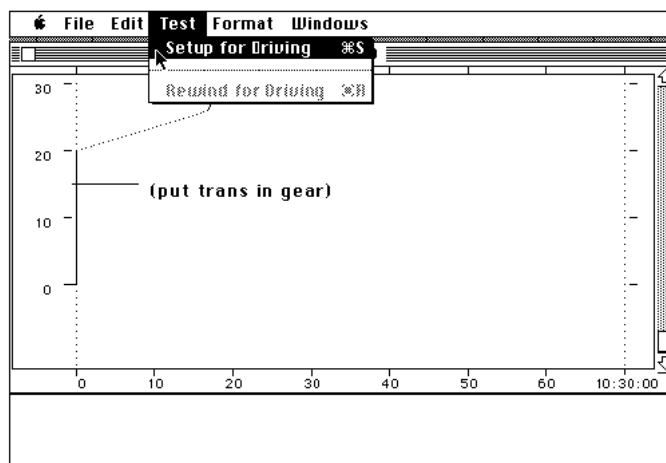

Figure 1
- 301 Position the mouse pointer on “Test” and press and hold down the mouse button, opening the “Test” Menu. Continue to hold down the mouse button, pull the mouse toward you, and position the pointer on “Setup for Driving;” then release the mouse button to select it. See Figure 1.